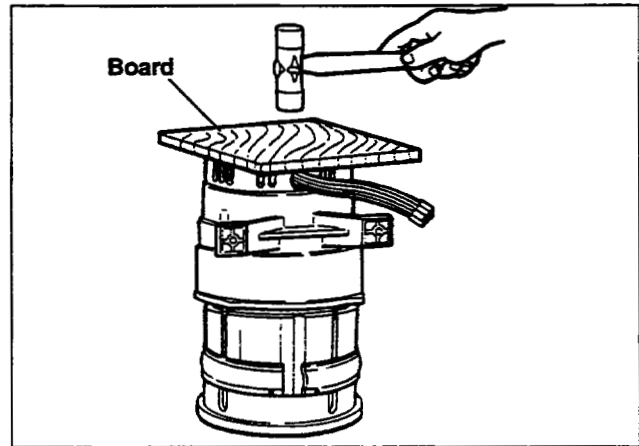

Fig. 10-28
- (2) Insert four guide bolts in the rear cover and let them match with the grooves in the stator and set the rear cover over the stator.
- (3) Take the stator leads out from the window of the rear cover.
- (4) Tap lightly and evenly the upper surface of the board on the rear cover with plastic hammer to press fit the rear cover over the stator. (See Fig. 10-28.)